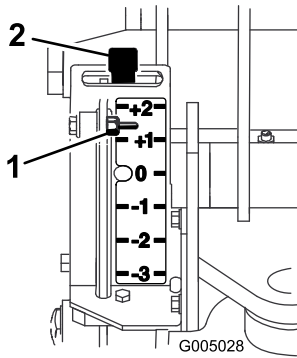
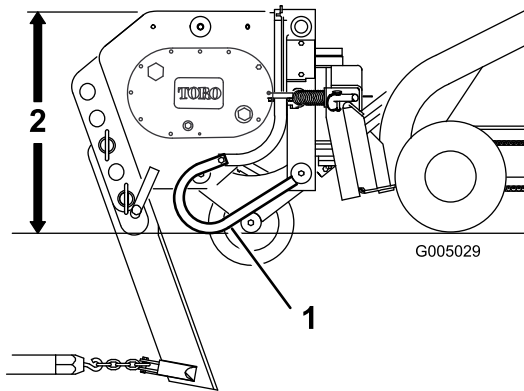

Figure 6
Figure 7
5. Tilt the attachment plate completely back so that the top of the plow is parallel to the ground (Figure 7).
The gauge is located on the left side of the plow facing the traction unit. A rod assembly runs from the gauge to the ground (Figure 7). When you lift the plow, the indicator on the gauge moves down. Marks on the gauge show the number of inches lower or higher than the maximum depth that you are plowing (Figure 6). The gauge reads from +2 to -3. The +2 on the gauge represents a 5.0 cm (2 inch) depth below the bare surface and the -3 on the gauge represents a 7.6 cm (3 inch) above the bare surface. The 0 on the gauge indicates that no offset is applied to the blade depth.